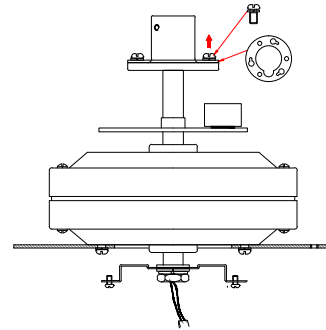

Fig 5
Step 1. Remove set of screws(8) from the top of the motor assembly, and remove the reinforcing plate and save its for later use as shown in Fig 5